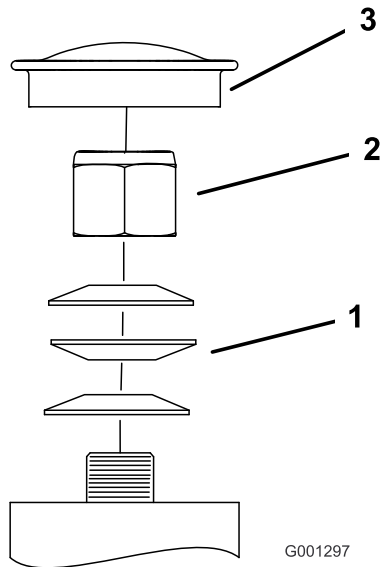

Figure 63
3. Remove the dust cap from caster and tighten the locknut (Figure 63).
4. Tighten the locknut until the spring washers are flat and then back off a 1/4 turn to properly set the pre-load on the bearings (Figure 63).
Important: Make sure the spring washers are installed correctly as shown in **Figure 63**.
5. Install the dust cap (**Figure 63**).